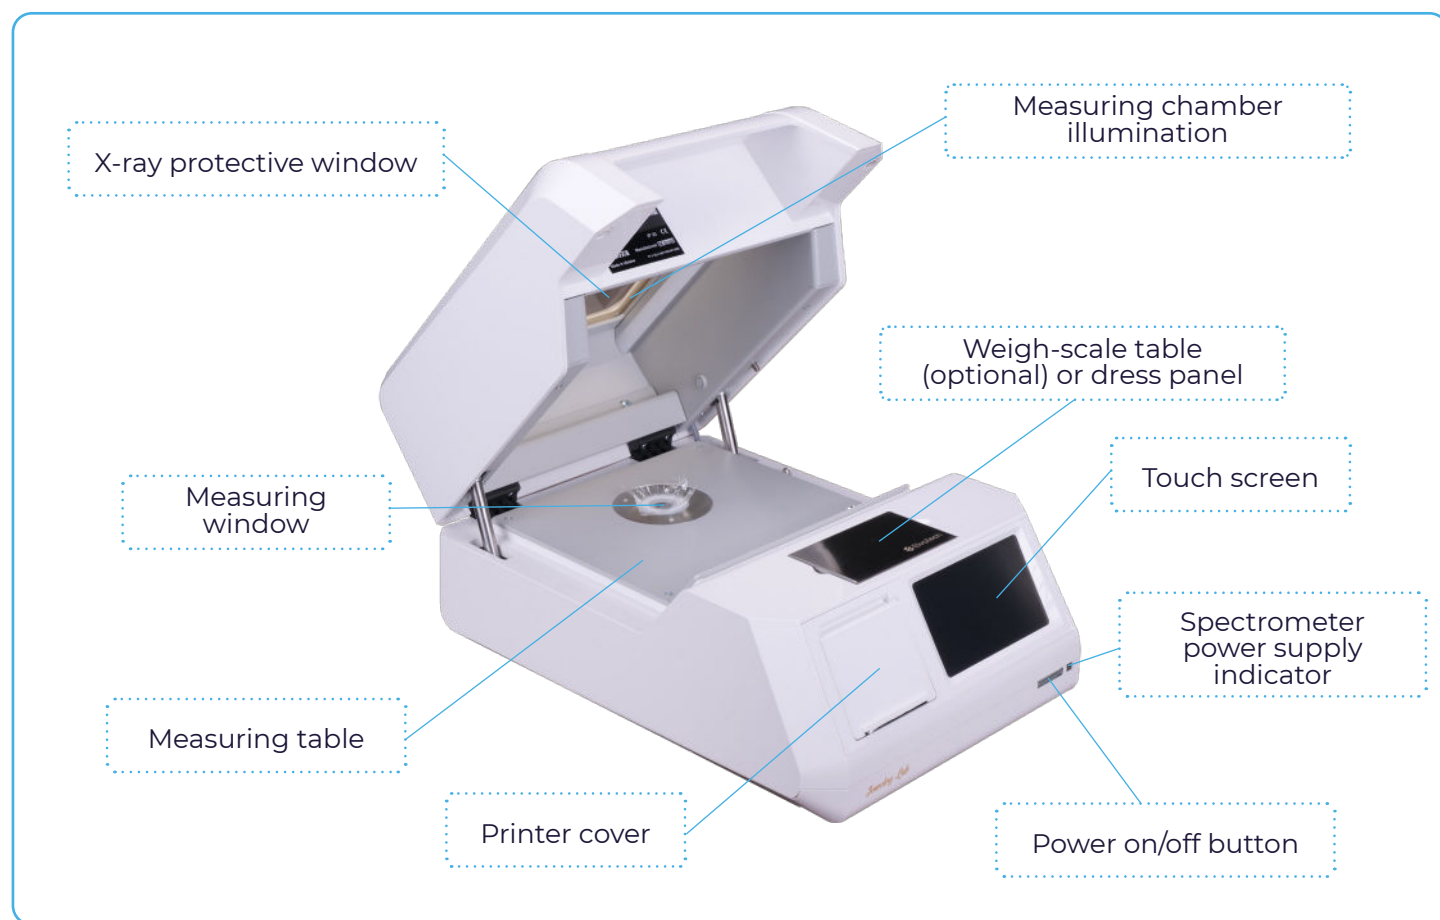
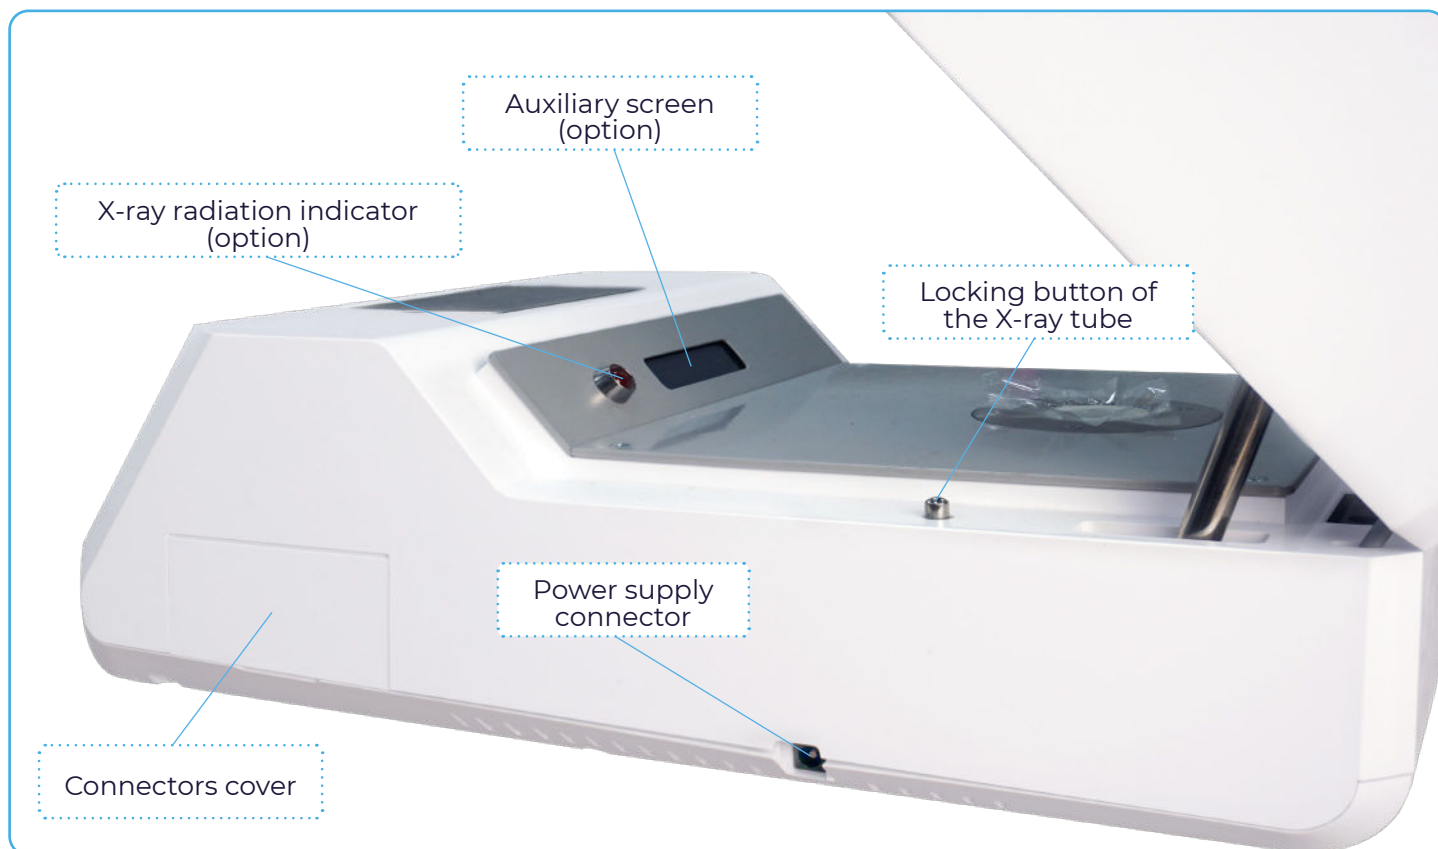

Fig. 1. Spectrometer with a raised lid of the measuring chamber
Fig. 2. Right side view
PLEASE NOTE! DO NOT USE SPECTROMETER WITH DEFECTIVE LOCK OR WITH THE LOCK BUTTON (fig. 2) BEING CONSTANTLY PRESSED!
- **with AC mains operation** – measuring chamber light bias (fig. 1) and x-ray indicator are on (fig. 2).
- **while running on battery** – the red LED inside the x-ray measuring chamber is on (fig. 2).
Spectrometer is usually powered by the network adapter connected into the power outlet with the AC voltage of 100V to 240V. When powered from the mains, adapter indicates it with the blue LED, and the spectrometer power indicator (figure 1) lights up with green.
The power button on the front panel of the spectrometer (fig. 1):
The **power indicator** located to the right of the power button (fig. 1):